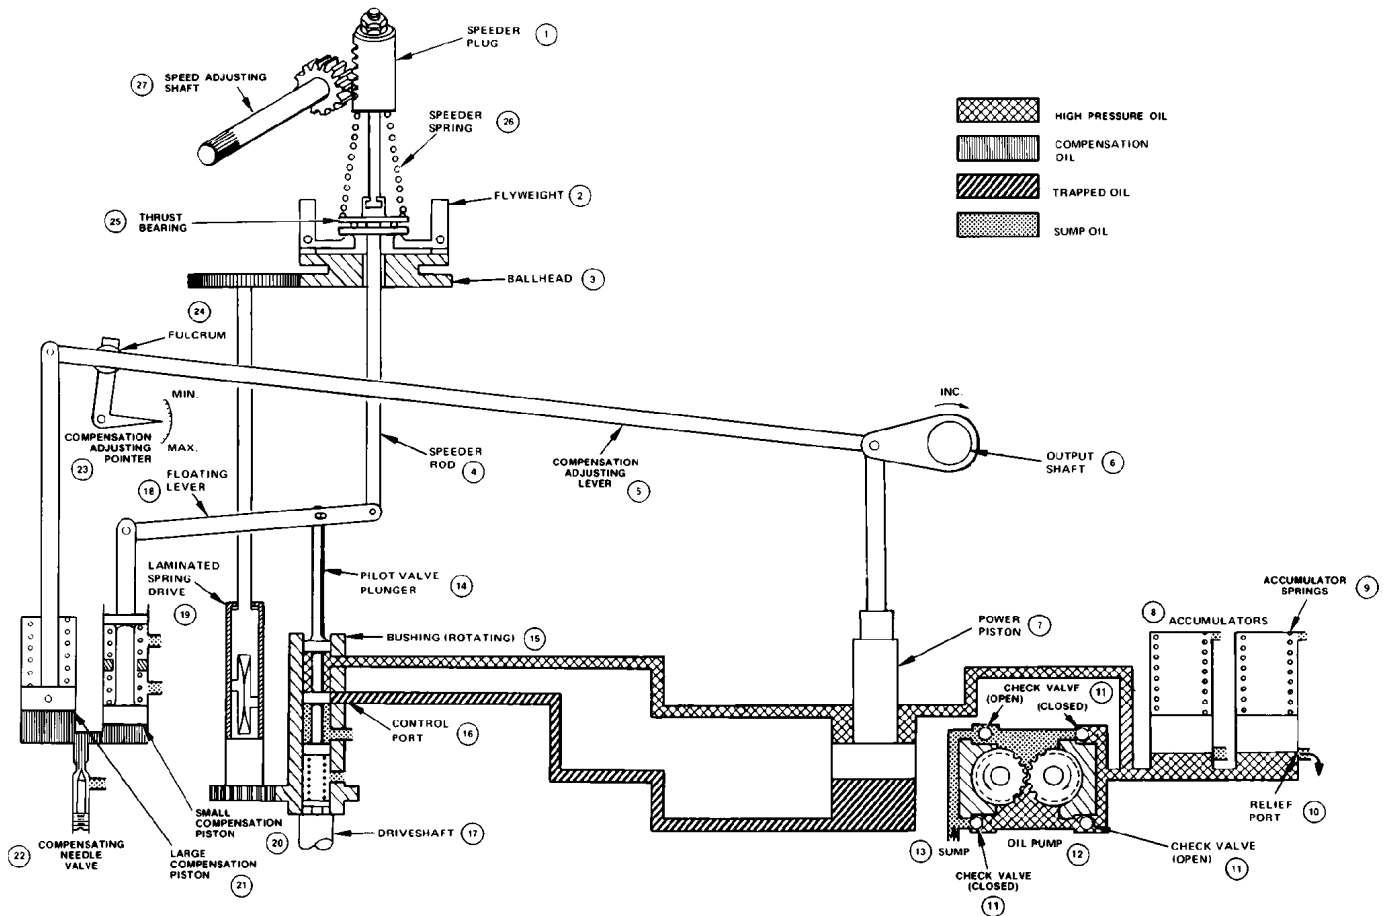

Figure 3-1. Schematic Diagram, UG Lever Governor
Basic UG Lever Governor operation is similar for all types. The only difference is in the method of setting the speed. Auxiliary devices provide different functions but do not alter the basic operation of the governor. Along with the text, a schematic diagram, Figure 3-1. is provided for visual means of understanding the operation of the UG Lever governor.
When the pvp (14) is lowered, high pressure oil flows under the power piston (7), raising it. When the pvp is raised, oil is released to sump from under the power piston, lowering it. The higher pressure on the top of the piston (7) forces the piston downward. When the pvp (14) is in its centered position, the control land covers the control port as shown in the schematic (Figure 3-1), and there is no movement of the power piston. The pvp movement is controlled by the ballhead system (3) and the small and large compensation pistons (20 and 21).
A large compensation piston (21), small compensation piston (20), a floating lever (18), a compensation adjusting lever (5) with adjustable fulcrum (24), along with a compensating needle valve (22) make up the compensation system (see Figure 3-1).
Refer to Figure 3-1 with the text to better understand the operation of the UG Lever governor. This schematic diagram is of a basic design and does not include any auxiliary equipment.